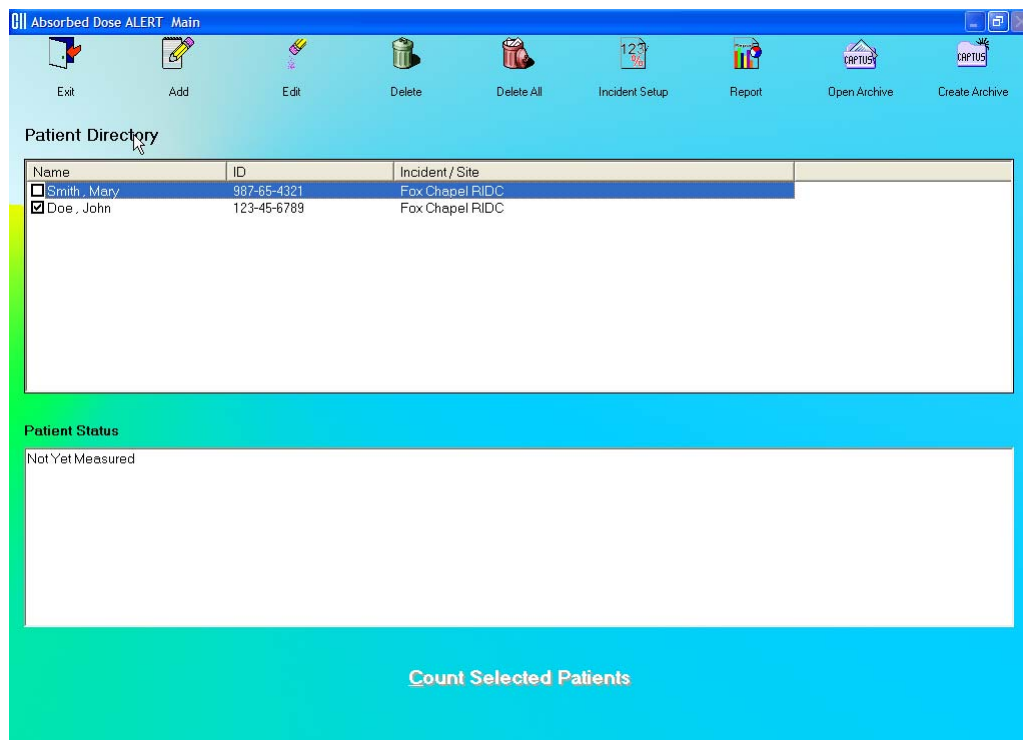

Figure 7-15
- To select (highlight) a patient to be edited, use the ↑ and ↓ keys or *Page Up* and *Page Down* keys to move up or down in the patient list. If the list is long, the scroll bar is also available. To reach a particular patient, press the first letter of the patient name. Press the ↓ key if necessary, to go further down (Figure 7-15).